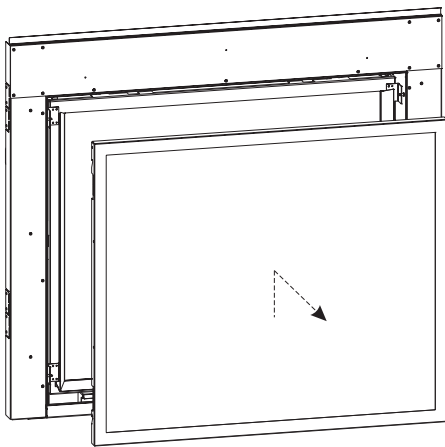

Figure 81
2. Use the Glass Latch Tool to grip the latch bar and pry it over the Glass Frame hook flanges. Tilt the Glass Frame towards you and pull upwards to remove it from the unit. **See Figures 81 and 82.**
- Check the barrier screen for fit and structural integrity. **See Figure 81.**